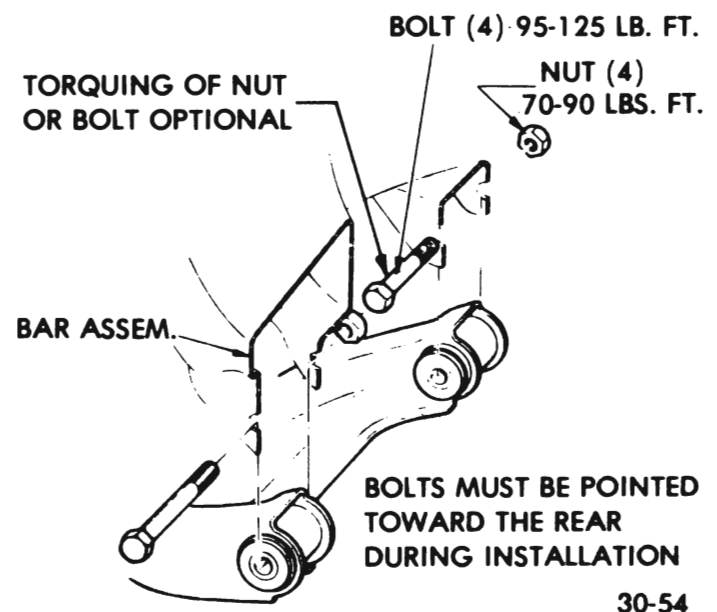

Figure 30-15 - Lower Control Arm Attachment
2. Remove the two nuts and bolts attaching the control arm to the frame. See Figure 30-15.